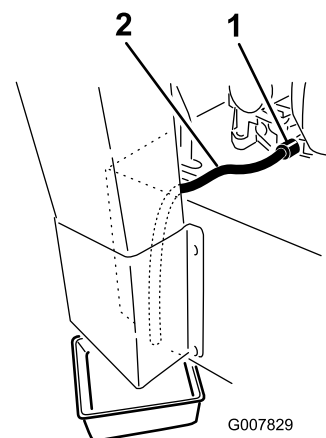

Figure 35
5. Place a pan below the drain hose. Rotate the oil drain valve to allow oil to drain (Figure 35).